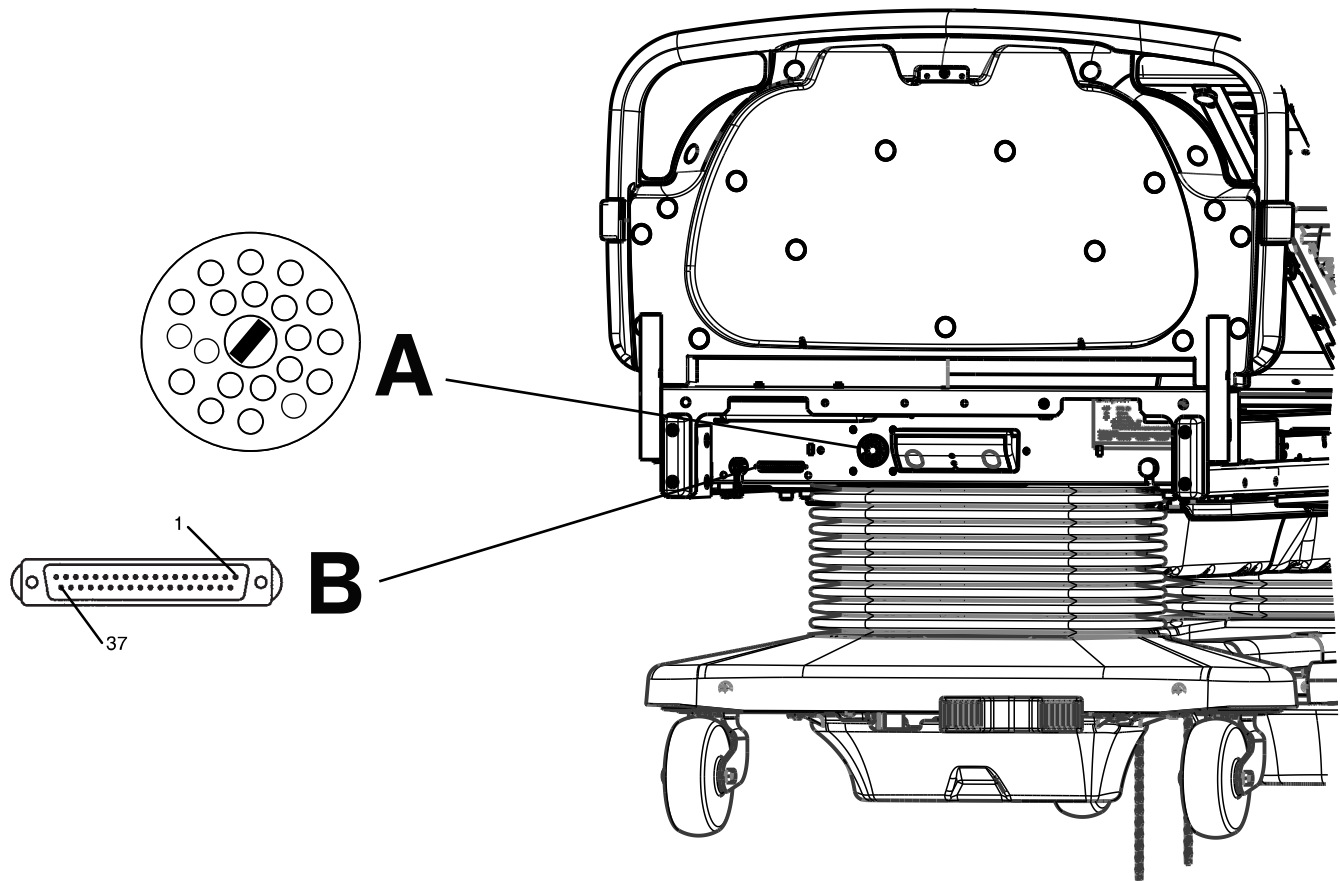

Figure 3 – Nurse call pendant port and 37-pin connector
1. Plug the interface cable into the 37-pin connector (B) in the litter frame at the head end of the product and into the applicable connection (patient station, head wall, or docker station) (Figure 3).
4. Push in the pendant port switch (A) and turn the switch to the on position (90° clockwise) (Figure 3).
5. Press the **Nurse call** button (E) (*Operator control panel, outside siderail* (page 26)) to verify the connection between the product's nurse call signal and the hospital's nurse call system.